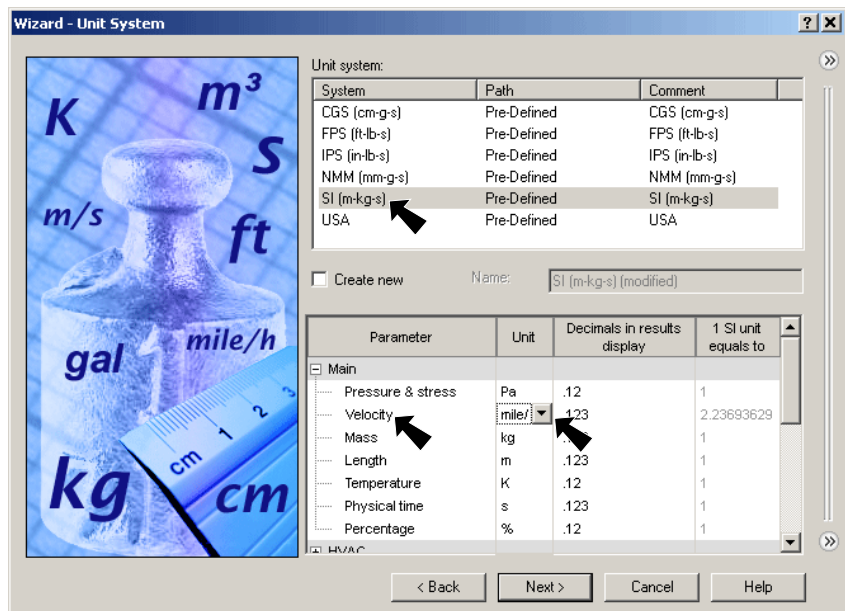

Fig. 3
Step 5. **Unit System:** Select **SI (m-k-g-s)** for Unit system, Fig. 3.
Step 6. Under Parameter, set **Velocity** units to **Mile/hour**, Fig. 3.